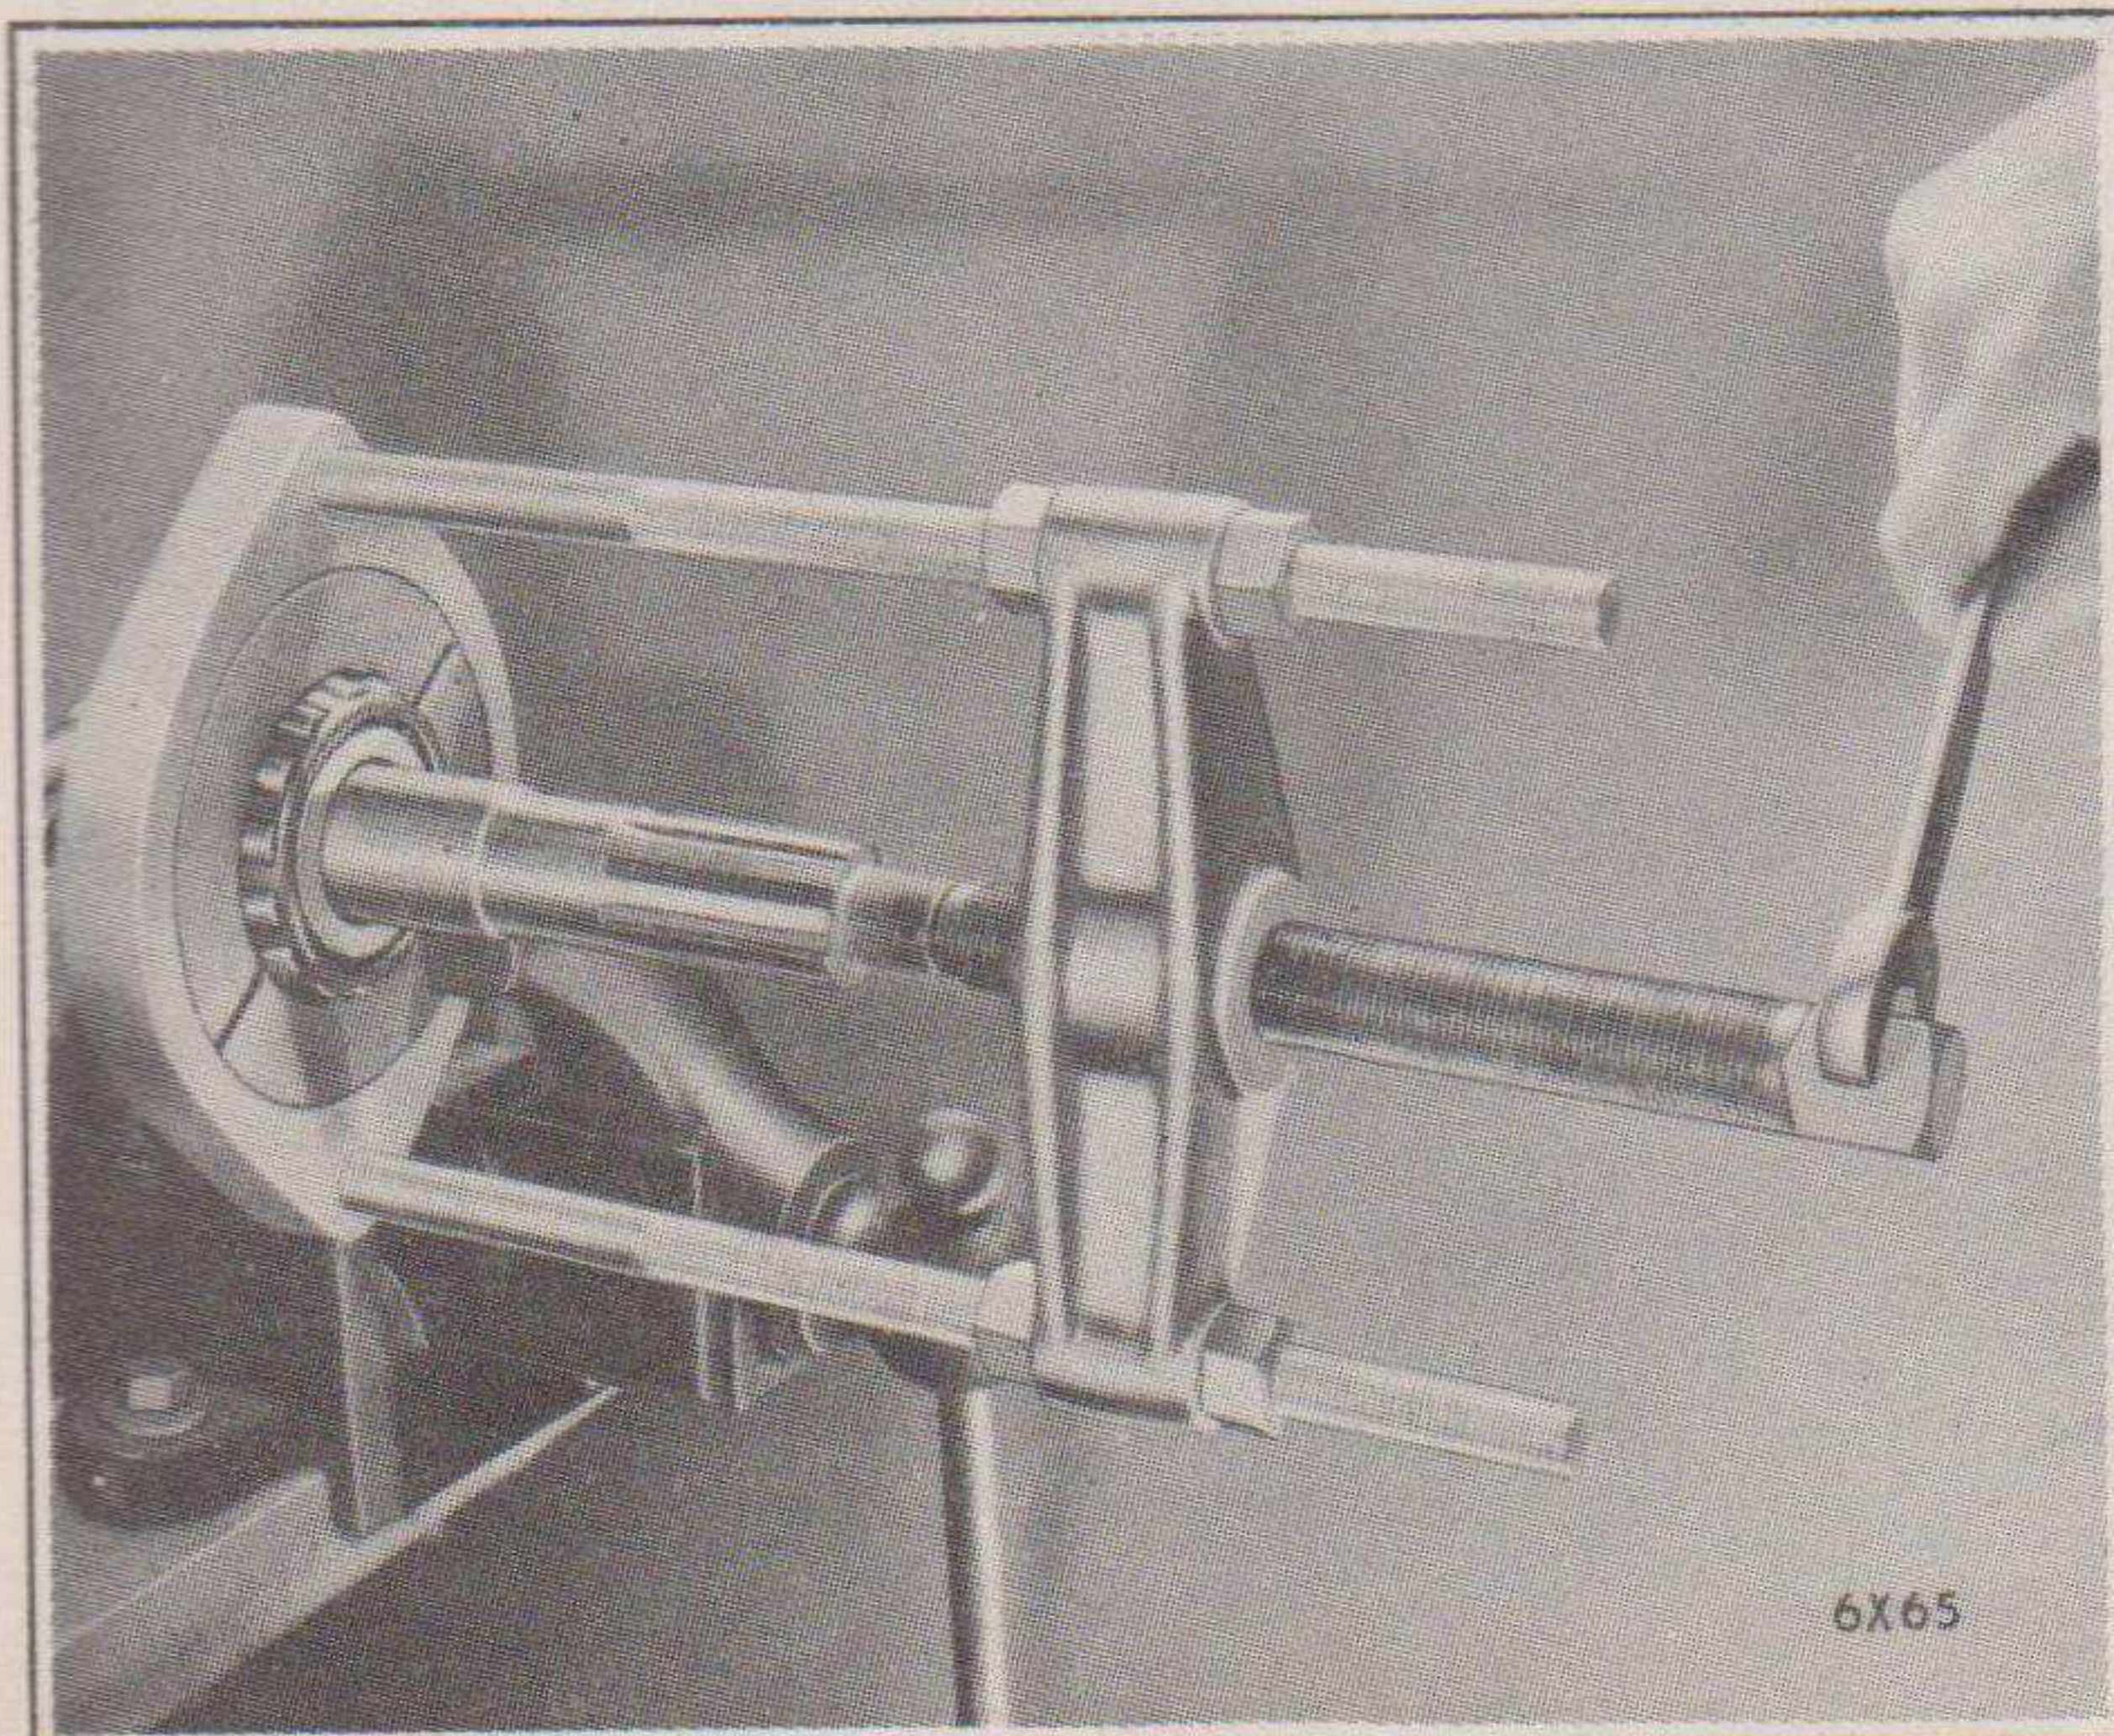

Fig. 60—Removing Drive Pinion Bearing with Tool C-293-U
- (e) Remove the bearing cone and rollers from the pinion shaft as shown in Fig. 60.